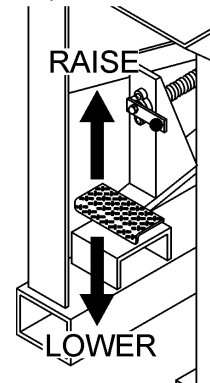

Figure 26. Raise/Lower Step Pedal
3. Move the conveyor cart, with the material in place, under the blade. Using your foot, depress the step pedal using a slow even pressure to lower the blade for cutting (Figure 26).